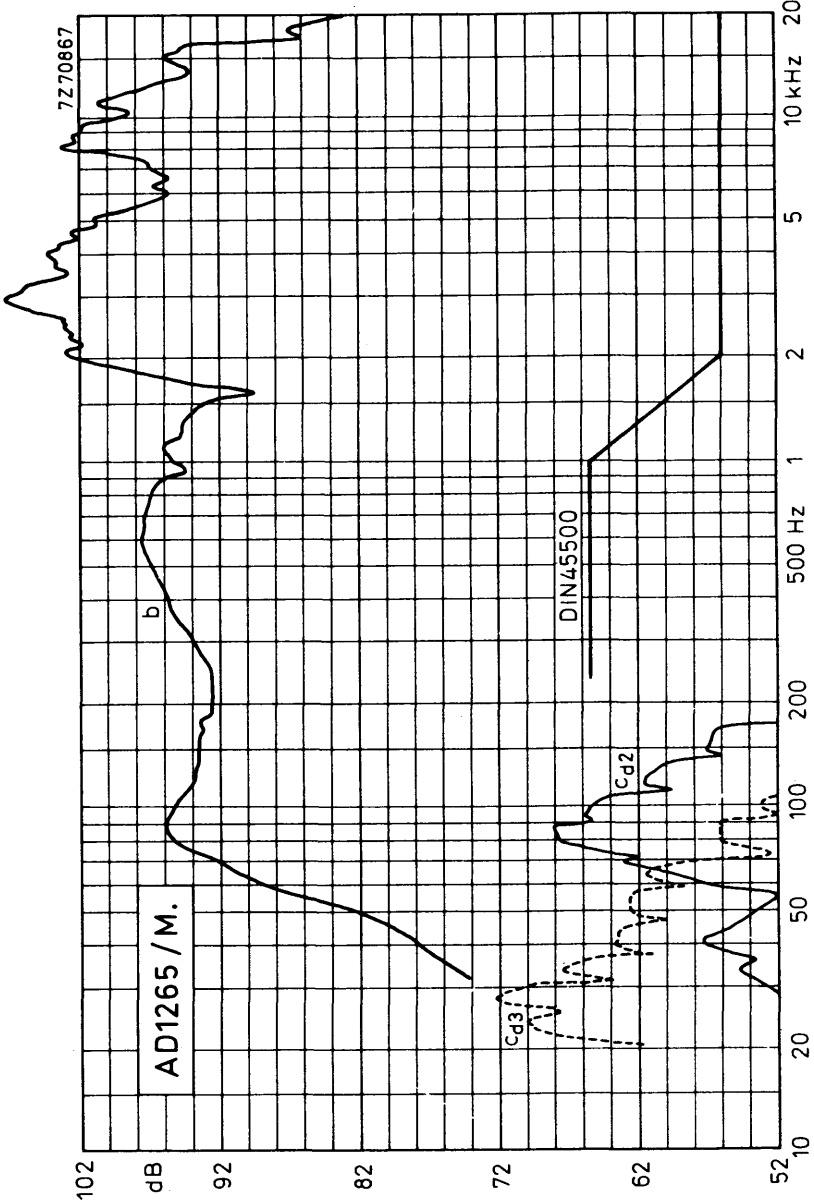

Fig. 2
**FREQUENCY RESPONSE CURVES (see Fig. 2)**